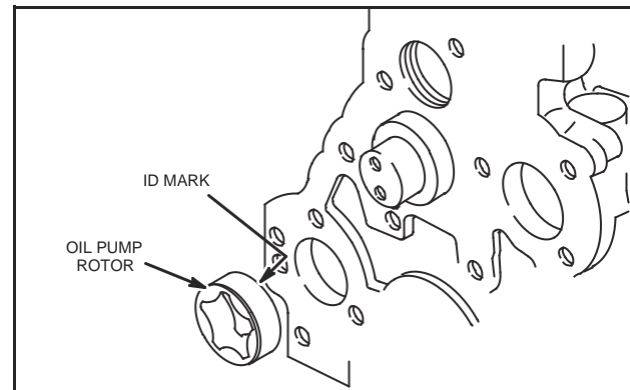

Fig. 15 – Installing Oil Pump Rotor
1. Lubricate oil pump rotor with engine oil and install in cylinder block, Fig. 15.